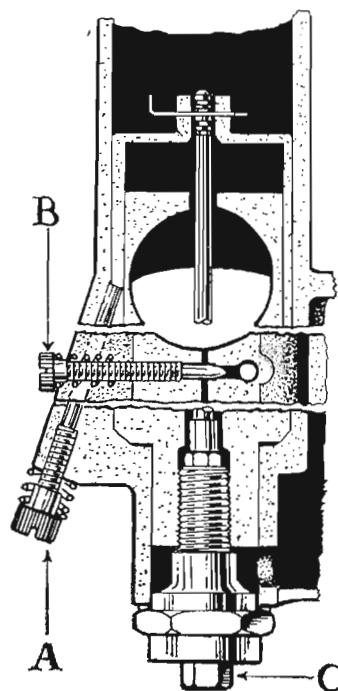

FIG. C.4.
Figure C.4 is a three-section diagram of the carburetter body, showing the throttle adjusting screw (A), and the pilot air adjusting screw (B).
(D) Needle and Needle Jet (Fig. C.4)